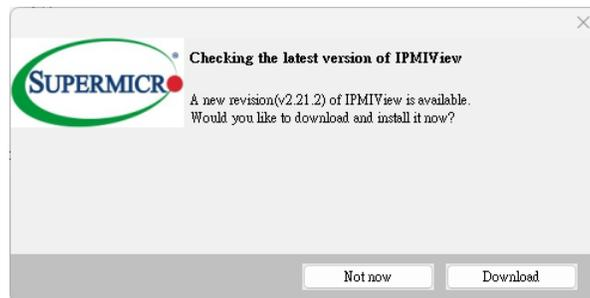

Figure 14-2
2. As shown in Figure 14-2, click **Download** to start downloading the file to update if a new revision is available.